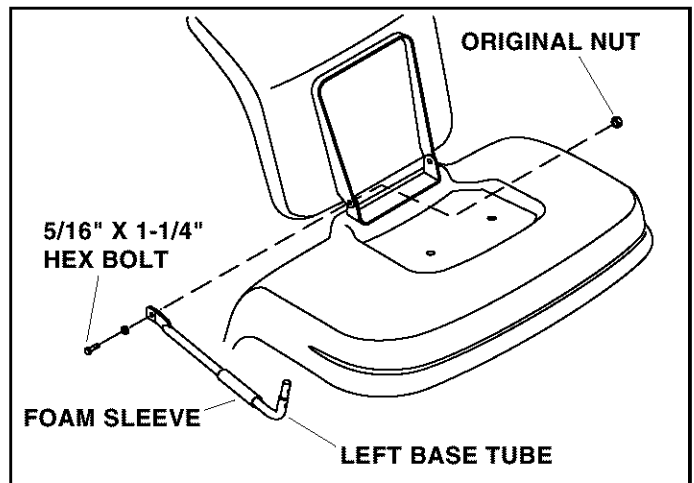

FIGURE 2
- Slide foam sleeve onto left base tube. See figure 2.
- Attach left base tube to left seat bracket. Use one 5/16" x 1-1/4" bolt from hardware package and the previously removed original nut. Make sure seat raises and lowers freely. Slightly loosen nuts if seat is too tight. See figure 2.